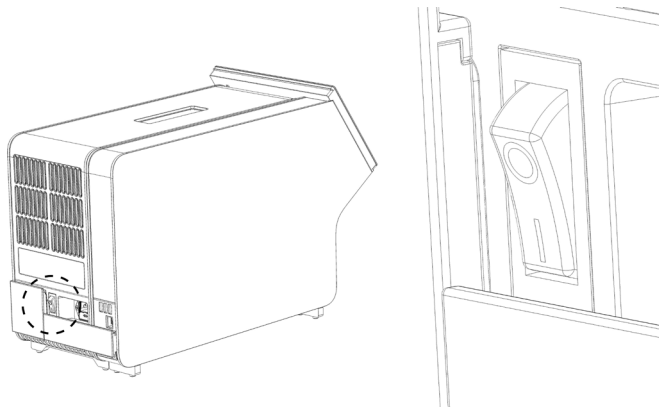

Figure 21. Locating the power switch and setting it to the "I" position.
10. Power ON the instrument by pressing the power switch on the back of the Analytical Module to the "I" position (Figure 21, next page). Confirm that the status indicators of the Analytical and Operational Modules are blue.